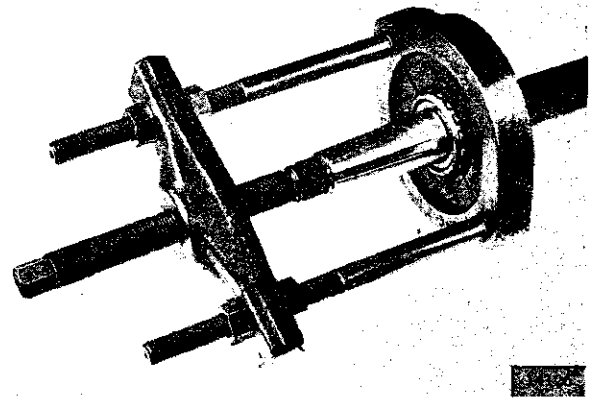

FIG. N-6—REMOVING AXLE SHAFT BEARING — TAPERED SHAFT
- To remove the bearing from an axle shaft, use Combination Bearing Puller W-104-B shown in Fig. N-6.